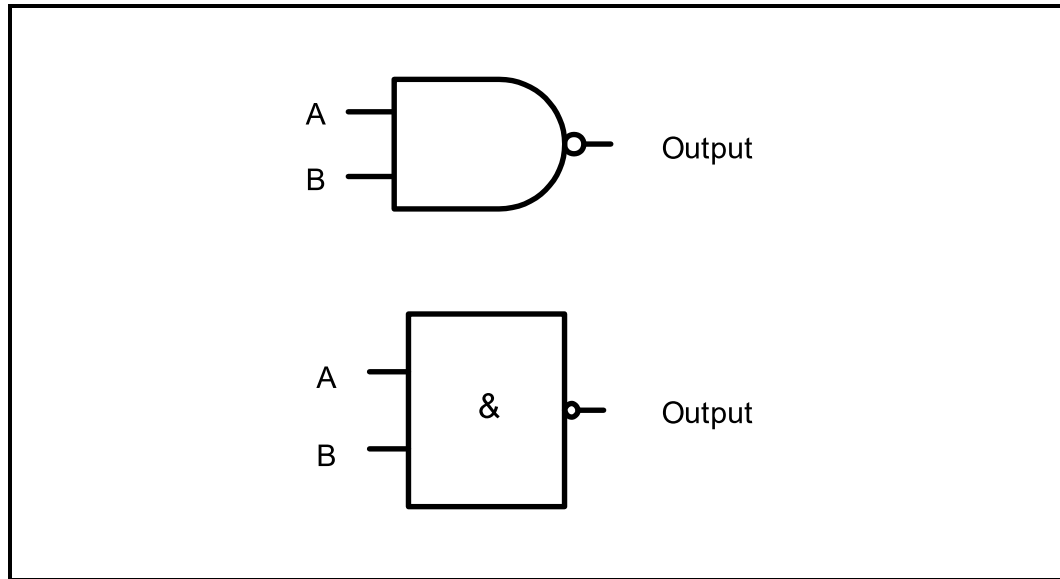

FIGURE 7.2: LOGIC GATE
7.2 Refer to FIGURE 7.2 below and answer the questions that follow.